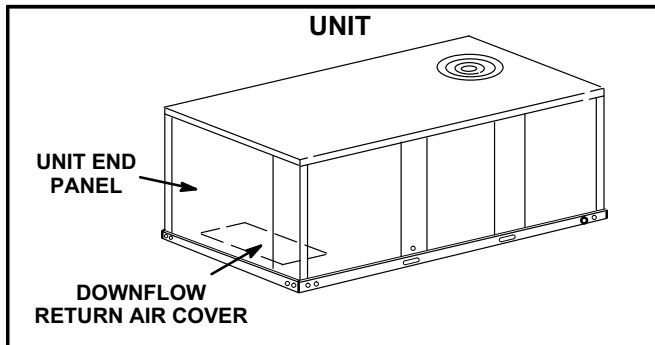

FIGURE 13
- 1- Remove unit end panel. See figure 13.
- 2- Install the downflow return air cover in horizontal airflow applications. Secure with #10 sheet metal screws provided in kit. See figure 13.